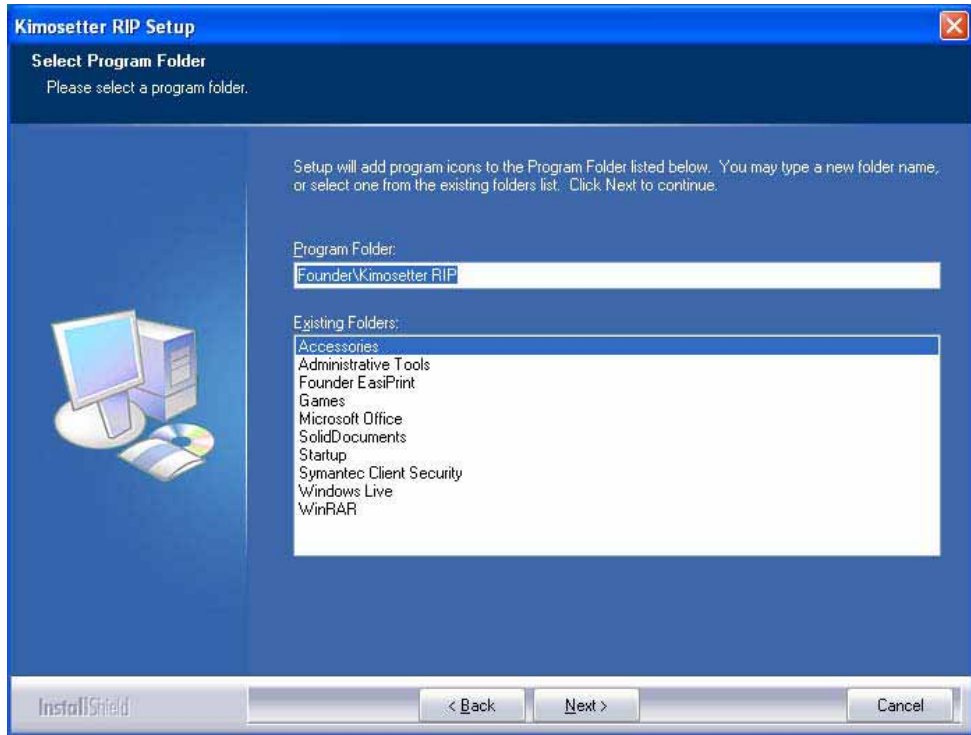

Figure 1-5
1.1.5 Click **Next** when the destination drive and folder has been selected. The **Select Program Folder** window (shown in Figure1-5) appears. You can use the default folder, or you may enter a name in the **Program Folder** box, or you may click on an existing name in the **Existing Folders** box. And click **Next**.